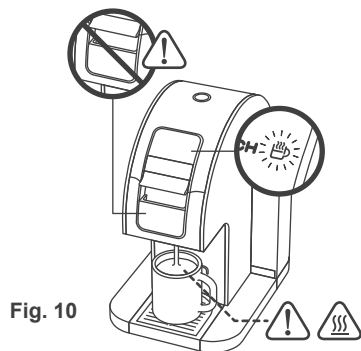

Fig. 10
5. The upper right brewing indicating light will stay ON during warm up, and the light will BLINK during the brewing cycle. (Fig. 10)
CAUTION: The brewer will heat the water EXTREMELY HOT during the brewing process. To avoid risk of injury, do not pull on the Latch or open the Cover while brewing. Contents will be EXTREMELY HOT! (Fig. 10)